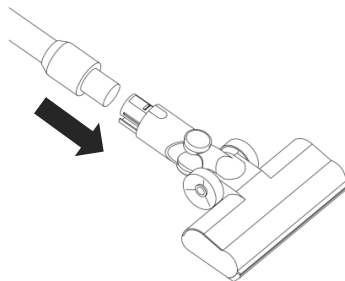

Figure 22
1. Press the long tube release button to separate the connecting rod from the brushes (Figure 22).